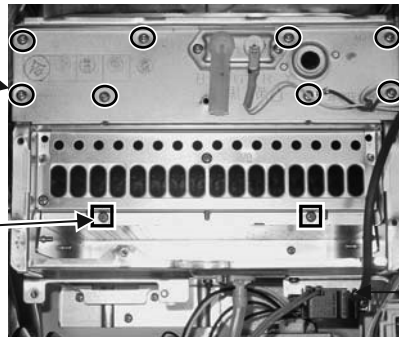

Figure 40
Remove Burner and Burner Cover Plate (Figure 40)
17. Unscrew the ignition line connection. (Figure 40)
Install Burner and Burner Cover Plate (Figure 40)